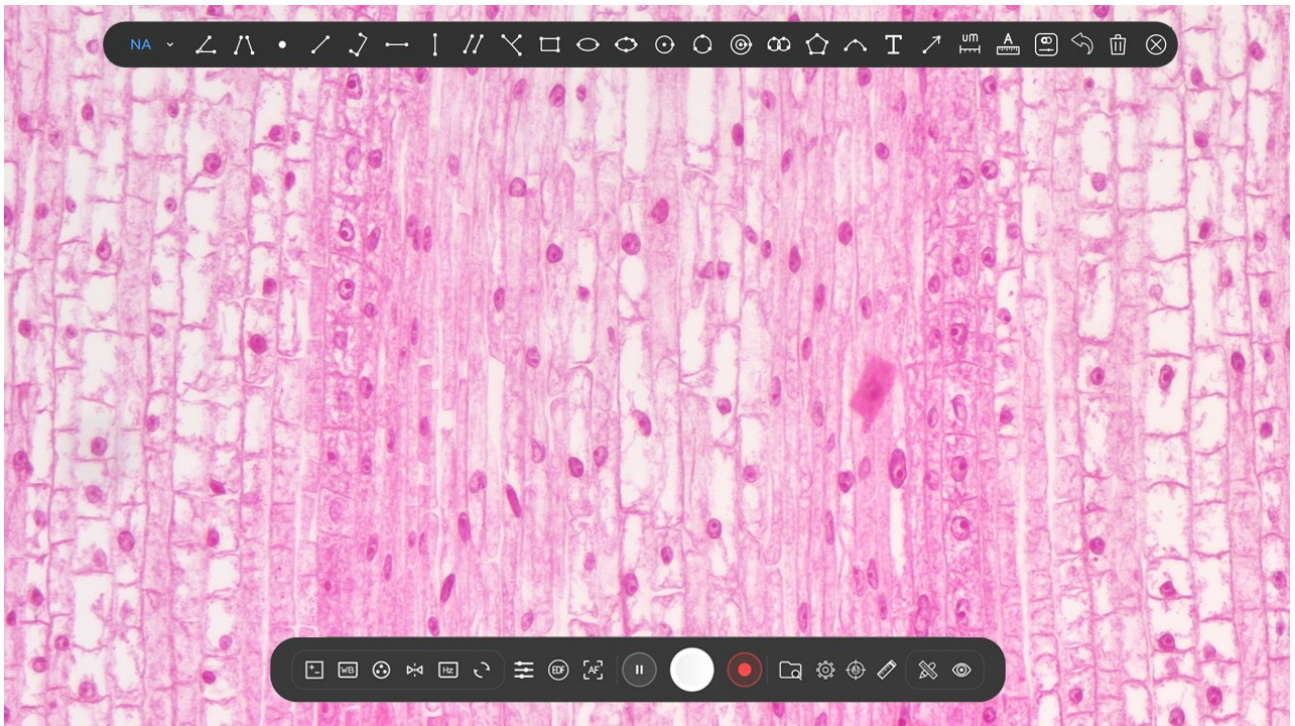

Figure 1 XCamView Software Interface
- **XCamView** software launches automatically at startup. Viewing real-time camera video is shown in Figure 1. By tapping the screen, you can display the **software control icons** below the window and the **measurement toolbar** above the window to operate the camera.
- **XCamView** software launches automatically at startup. Viewing real-time camera video is shown in Figure 1 . By tapping the screen, you can display the **software control icons** below the window and the **measurement toolbar** above the window to operate the camera.
The XCamView UI in Figure 1 primarily includes the “Software Control Panel” at the bottom of the video window, including the “ISP Adjustment Panel,” and the “Measurement Toolbar” at the top of the video window.